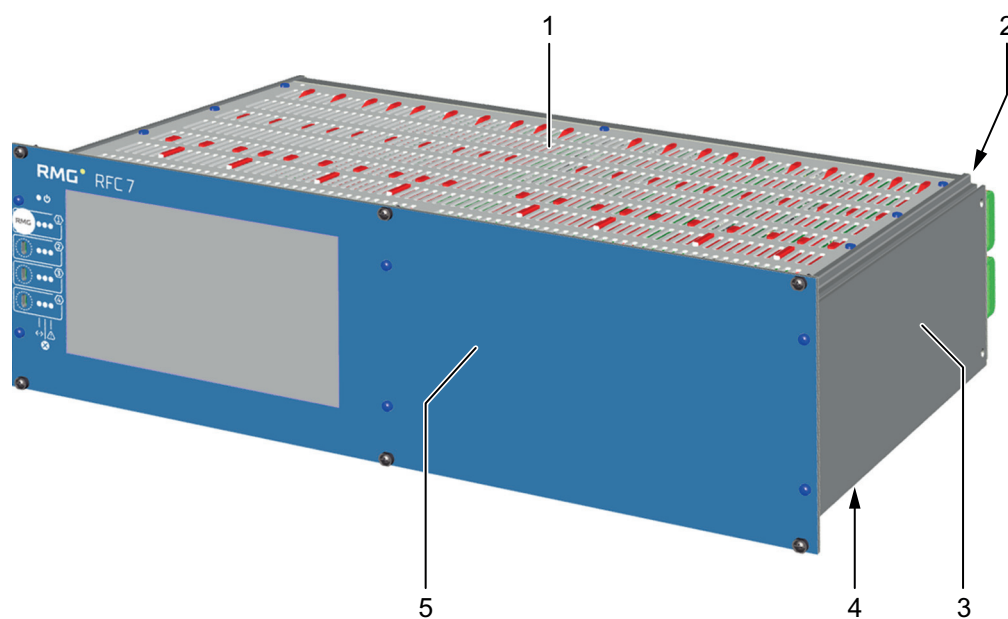

Fig. 8: RFC 7 – 19" housing for 3 to 4 streams
- 19" housing for 3–4 streams, cf. fig. 8